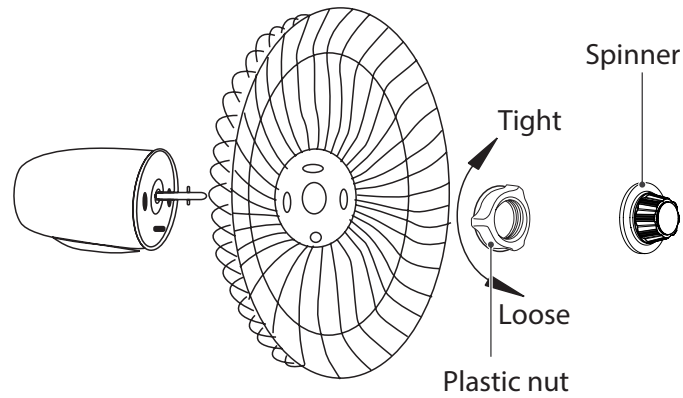

Fig.1
1. Unscrew the spinner clockwise (or take the spinner out from the bag) and the plastic nut counterclockwise to remove both of them. Fix the rear grill to the motor then tighten the plastic nut again. (Fig. 1)